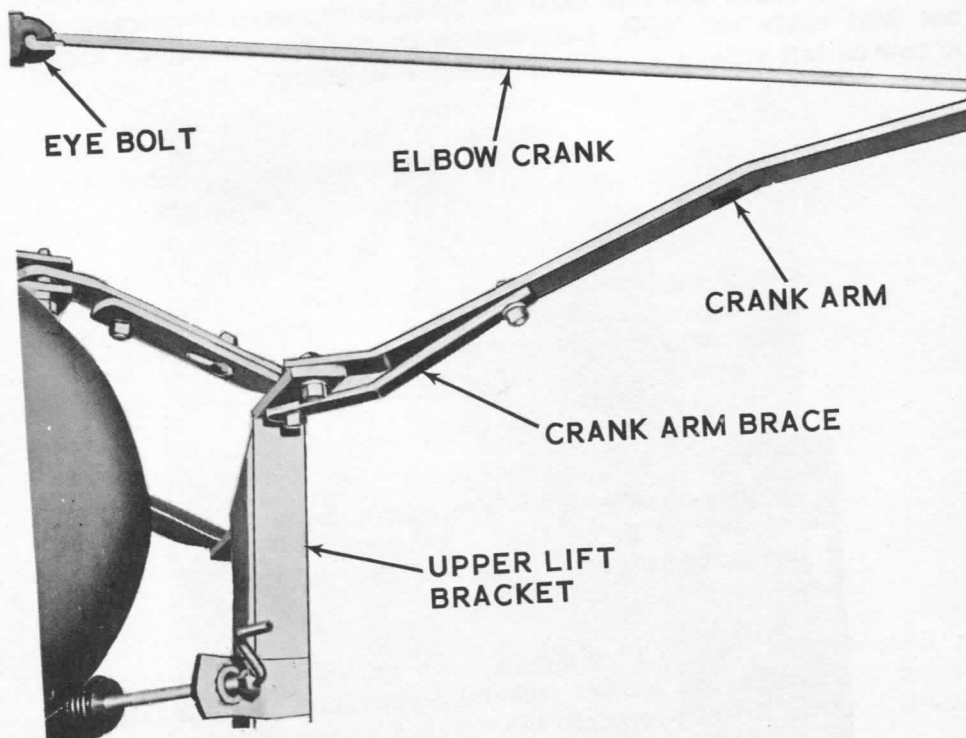

Figure 17
6. Place the elbow crank through the guide on the crank arm and connect to the eye bolt (Figure 17) on the rear right side of the blower housing. Press the plastic bushing into the crank guide.
7. Secure the crank arm and crank arm brace to the upper lift bracket (Figure 17) with two $\frac{3}{8}$ " x $\frac{1}{2}$ " cap screws, lockwashers, and hex nuts. Tighten the lower cap screw on the crank arm brace which was preassembled to the upper lift bracket.